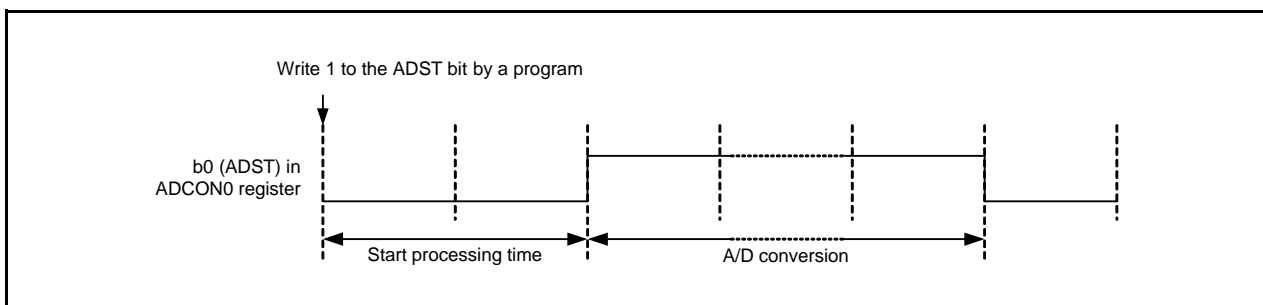

Figure 27.2 ADST Bit Operation
- When 1 is written to the ADST bit by a program, it is set to 1 (A/D conversion starts) after start processing time (refer to **Table 27.5 Number of Cycles for A/D Conversion Items**). Thus, if this bit is read immediately after 1 is written, it may be read as 0 (A/D conversion stops) (refer to Figure 27.2).